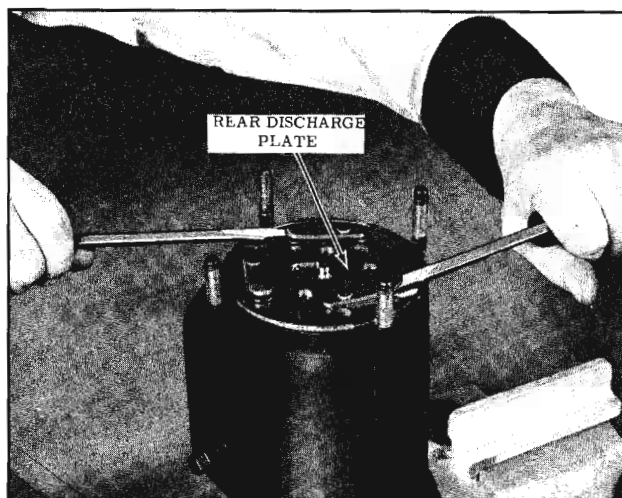

Fig. 15-65 Removing Rear Discharge Plate
7. Remove the rear discharge valve plate and reed valve assembly. Separate the discharge valve plate and reed valve and inspect. (Fig. 15-65)